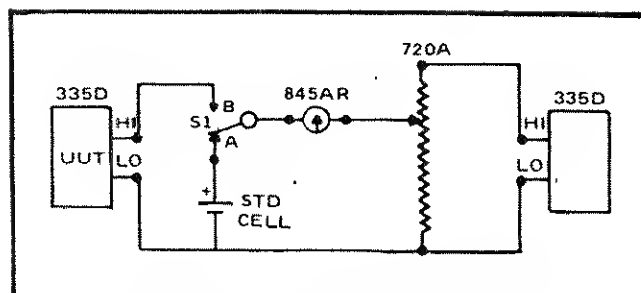

Figure 4-7. CONNECTIONS FOR SAMPLE STRING LINEARIZATION
- d. Using the 7101B DC Voltage Calibration System make the equipment connections shown in Figure 4-7.